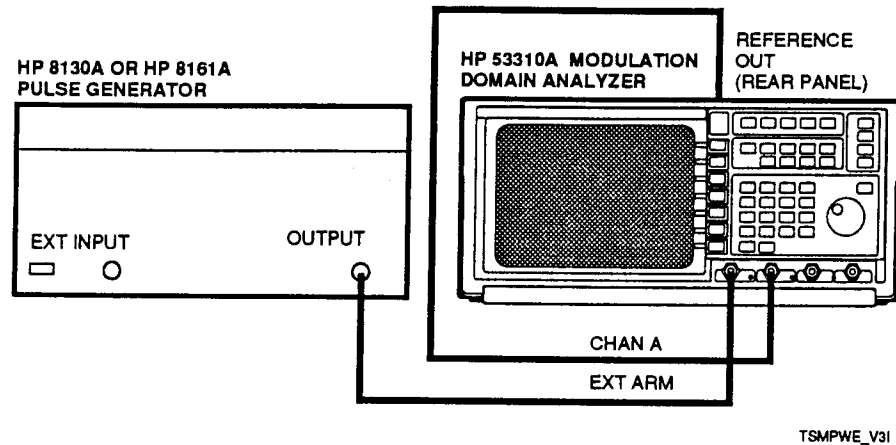

Figure 2-9. Setup for Minimum Pulse Width Tests for External Arm
- 1 Connect the HP 53310A to the source as shown in *Figure 2-9*.